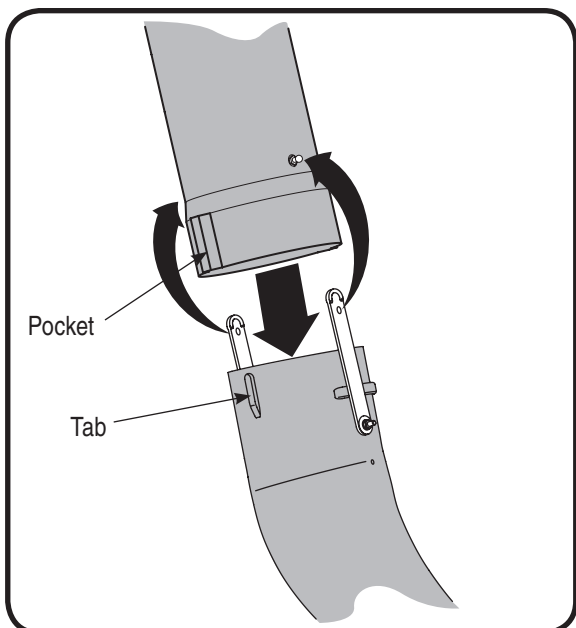

Figure 27
9. Place the lower end of the chute tube over the discharge chute so that the tabs on the discharge chute fits into the pockets on the chute tube. See Figure 27.
10. Secure by hooking the two retainer straps of the discharge chute to the pins on the chute tube. See Figure 27.